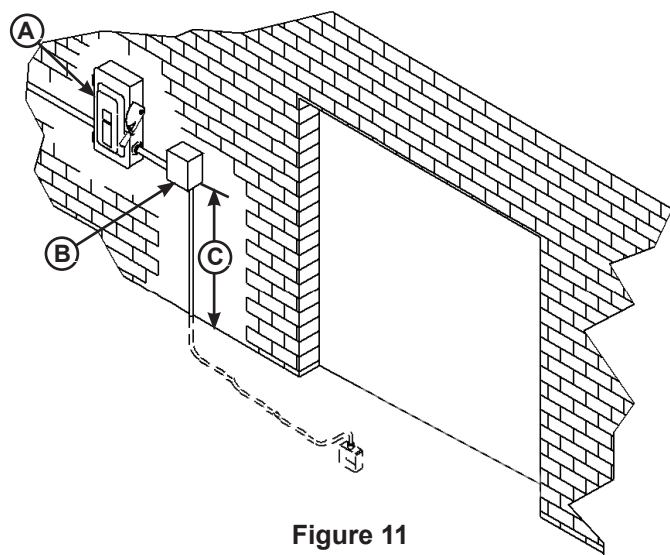

Figure 11
1. Mount the push-button control panel (B) so bottom of control panel-to-dock floor distance (C) is 48 in. (1219 mm). See Figure 11.
2. Install electrical disconnect panel (A) if not already installed. Disconnect panel supplied by others.